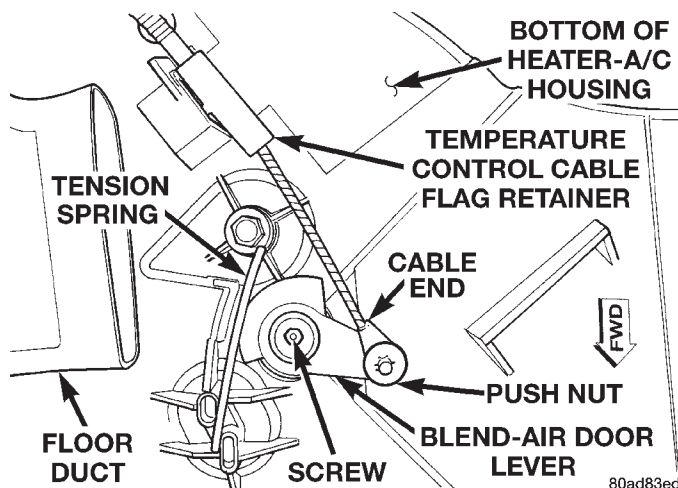

Fig. 40 Temperature Control Cable Remove/Install
(1) Disconnect and isolate the battery negative cable.
(2) Disconnect the temperature control cable housing flag retainer and cable end from the back of the heater-A/C control. See Heater-A/C Control in this group for the procedures.
(3) Locate the temperature control cable housing flag retainer receptacle on the bottom of the heater-A/C housing, near the passenger side of the floor pan transmission tunnel (Fig. 40). Locate the flag retainer latch release window on the side of the receptacle. While depressing the flag retainer latch through the release window, use a trim stick or another suitable wide flat-bladed tool to gently pry the cable housing flag retainer out of the receptacle.